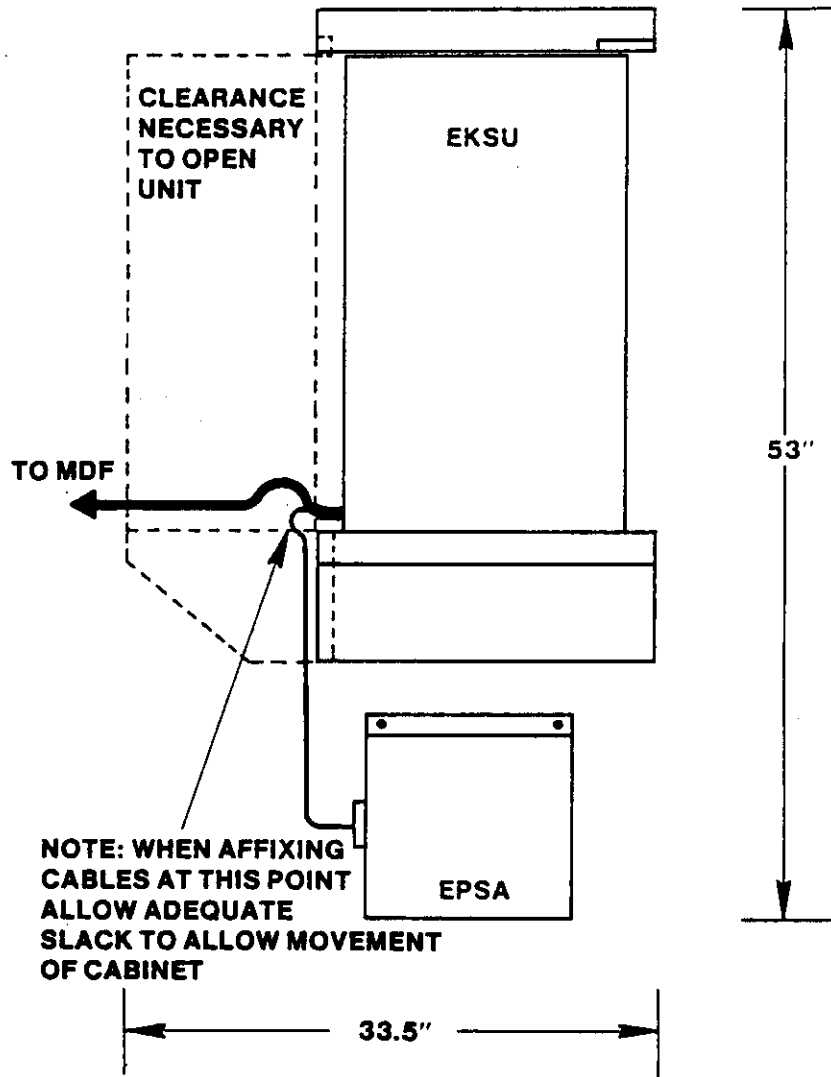
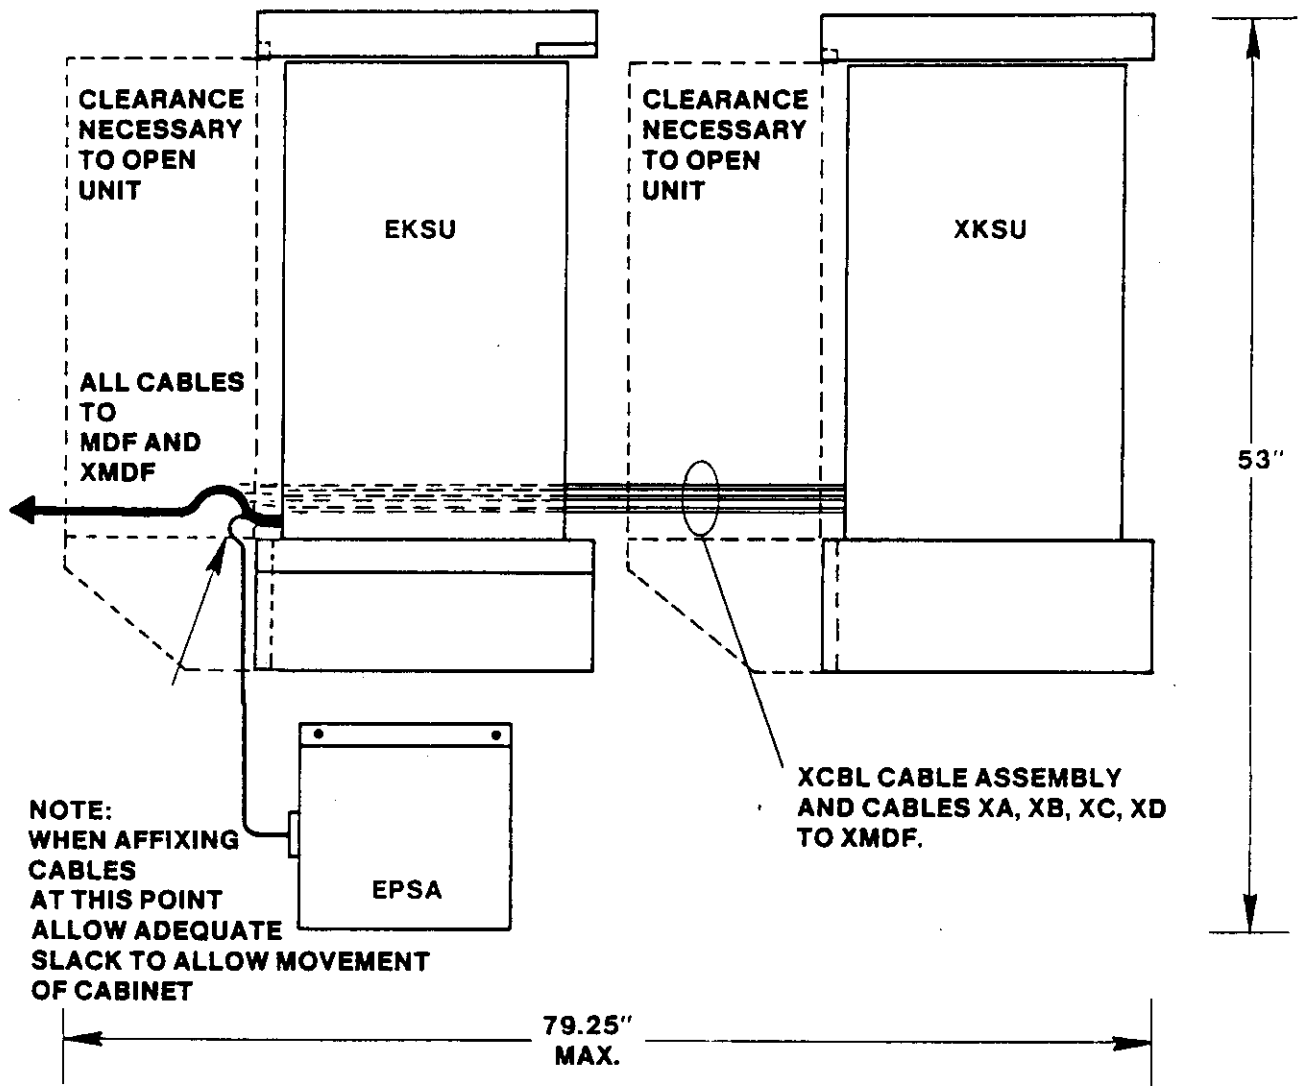

FIGURE 2 – BASIC SYSTEM INSTALLATION
FIGURE 3—EXPANDED SYSTEM INSTALLATION
2.4 Refer to Figure 2 to determine the wall space required for mounting the basic EKSU and Figure 3 for an expanded system including an XKSU.
2.5 Note that the maximum allowable separation (shown in Figure 3) between the EKSU and XKSU is determined by the Expansion Cable length of 1.5 meters (59.06 inches).